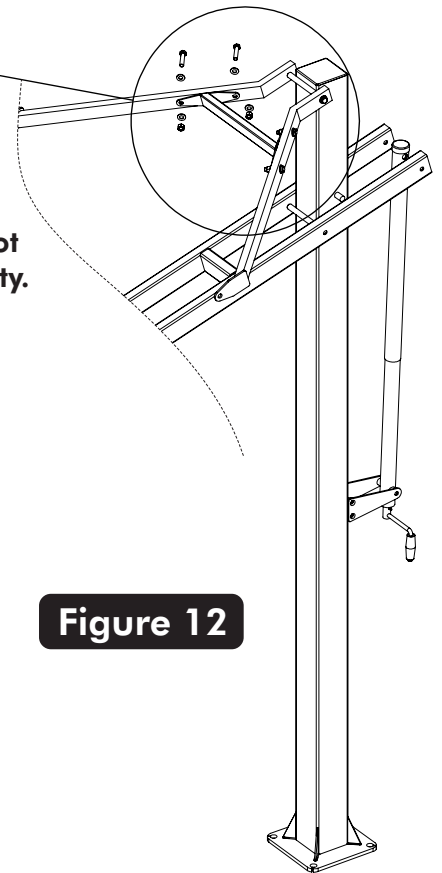

**Figure 11**
**16.** With at least four capable people, raise the backboard assembly up and have the fifth person attach Lower Board Arms to the Rim Support (#21) on backboard using one bolt (#8), two washers (#3), two Plastic washers (#5) and one locknut (#4). See Figure 11.
**17.** Attach Upper Board Arms to the **inside** of upper mounting brackets on the backboard using two bolts (#20), four Washers (#3), four Plastic Washers (#5) and two Locknuts (#4). See Figure 11 & Detail A2. **Tighten fasteners but leave loose enough attach Upper Arm Cross Brace on the next step.**